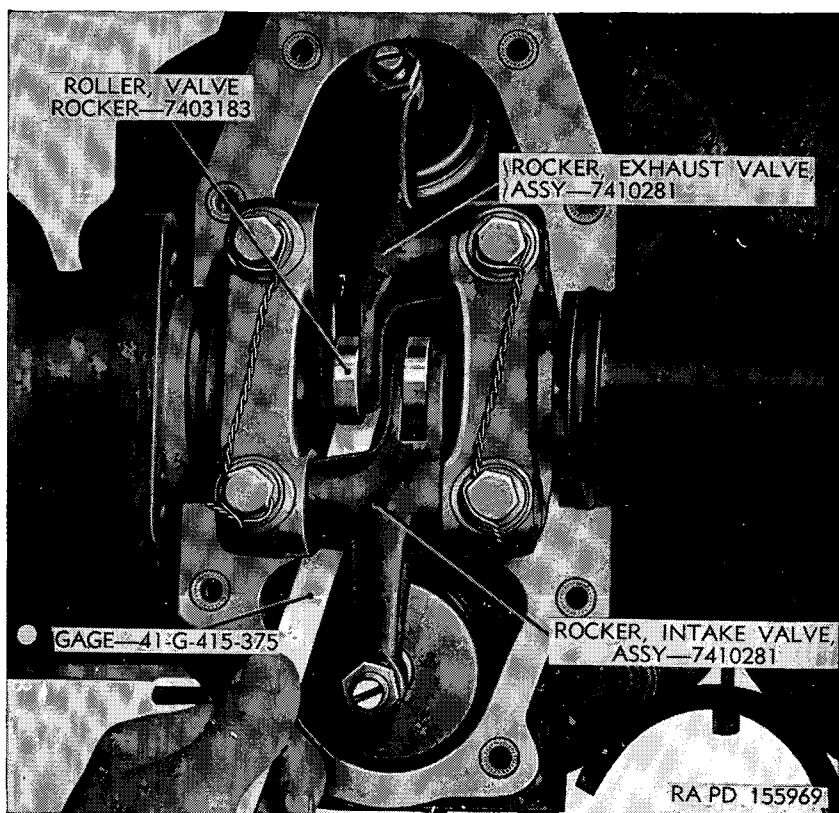
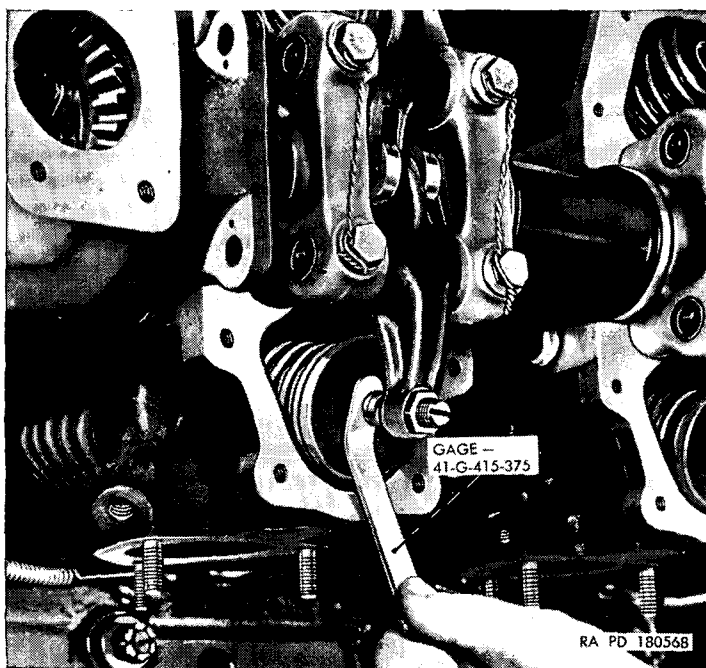

Figure 99. Setting exhaust valve rocker clearance.
Figure 101. Adjusting intake valve rocker clearance to 0.100 inch for engine timing.
c. Set valves. Set all intake valve rocker clearances, except No. 1 to 0.007 inch and secure the adjusting screw jam nuts. Set No. 1 intake valve rocker clearance to 0.100 inch (par. 109, fig. 101). Set exhaust valve rocker clearance with gage 41-G-415-375 (fig. 99) to 0.014 inch between the cam lobe and the valve rocker roller and secure with the adjusting screw jam nuts. It is necessary to set the exhaust valve clearance in this manner as the end of the valve is in its spring retainer recess and a feeler gage cannot be used at the valve.
- (1) Set No. 1 cylinder intake valve clearance to 0.100 inch using gage 41-G-415-375 (fig. 101). Rotate the crankshaft clockwise, as viewed from the accessory end, with engine turning wrench 41-W-906-130 (fig. 7), until